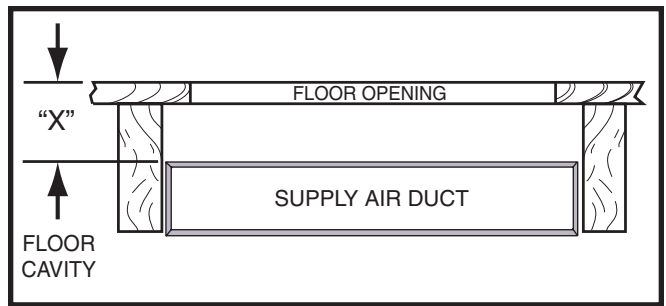

Figure 9. Floor Cavity
4. Measure from the top of the floor down to the top of the supply air duct to obtain the depth of the floor cavity. **NOTE:** The depth of the floor cavity shown as "X" in Figure 9 \(page 8\) will determine the correct duct connector.